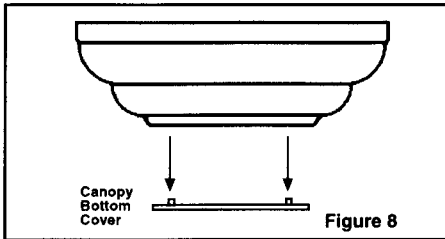

Figure 8
2. Remove the decorative canopy bottom cover from the canopy by depressing the three studs. (Figure 8).